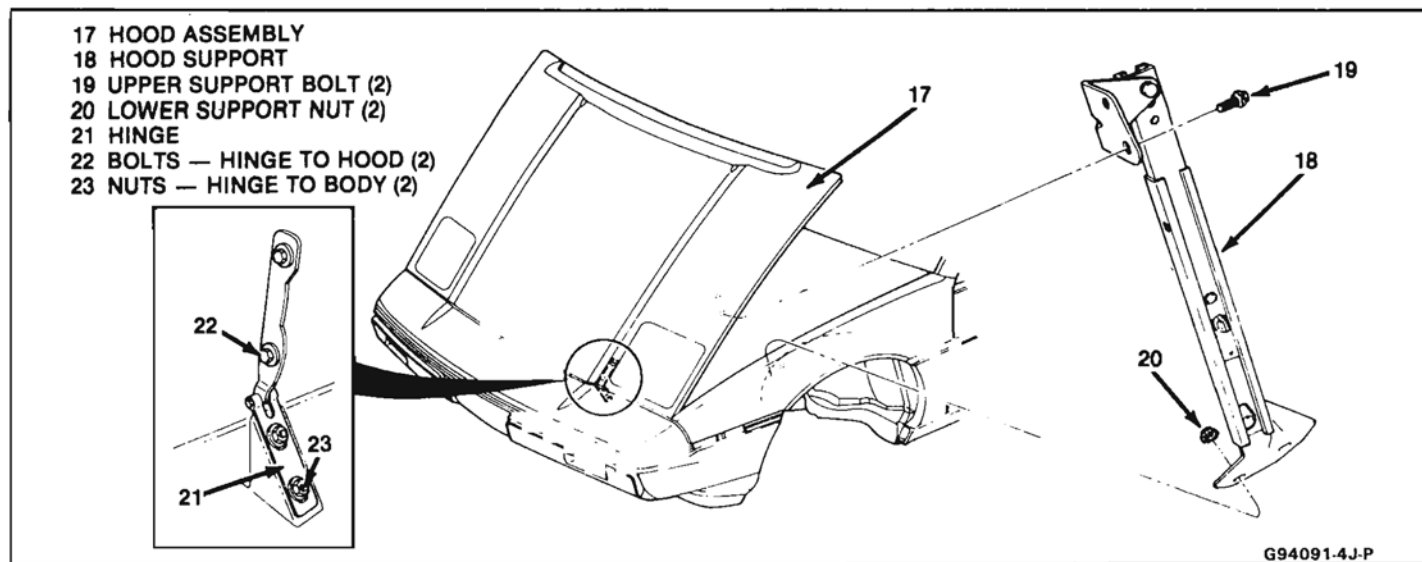

Fig. 3-Hood and Attaching Hardware
↔ Install or Connect (Figure 3)
**Adjust (Figure 3)****Hood too High or Low at Front Corners**
- Loosen nuts (23)
- Tighten nuts (23)
Hood Hinge**Remove or Disconnect (Figure 3)****Important**
2. Nuts (23)
3. Bolts (22)
4. Hinge (21)
**Install or Connect (Figure 3)**
1. Hinge (21) align with scribe marks
2. Bolts (22)
3. Nuts (23)